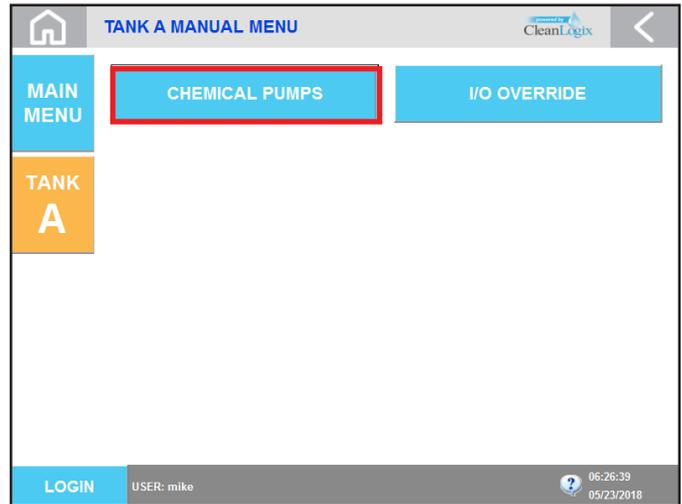

Figure 9.1: Manual Sub-Menu
3. Click the Home icon and navigate to **TANK A > MANUAL > CHEMICAL PUMPS** [Figure 9.1].